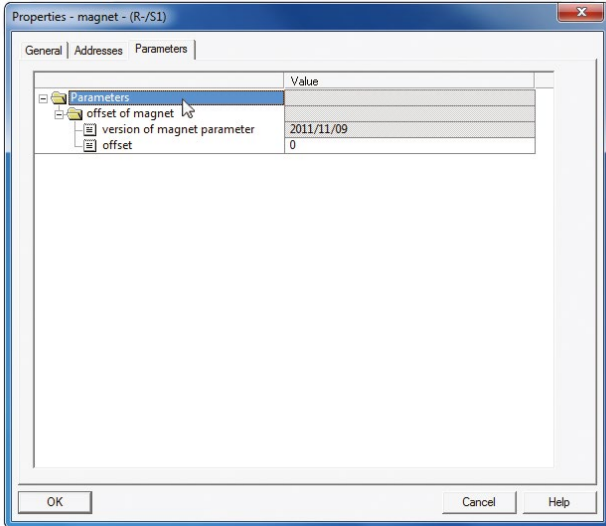

Fig. 70: Adjust the position offset of the magnet (source: Siemens)
- Double-click a magnet to open window “Properties – magnet”. Select tab “Parameters” and adjust the position offset of the magnet with unit  $\mu\text{m}$  (Fig. 70).